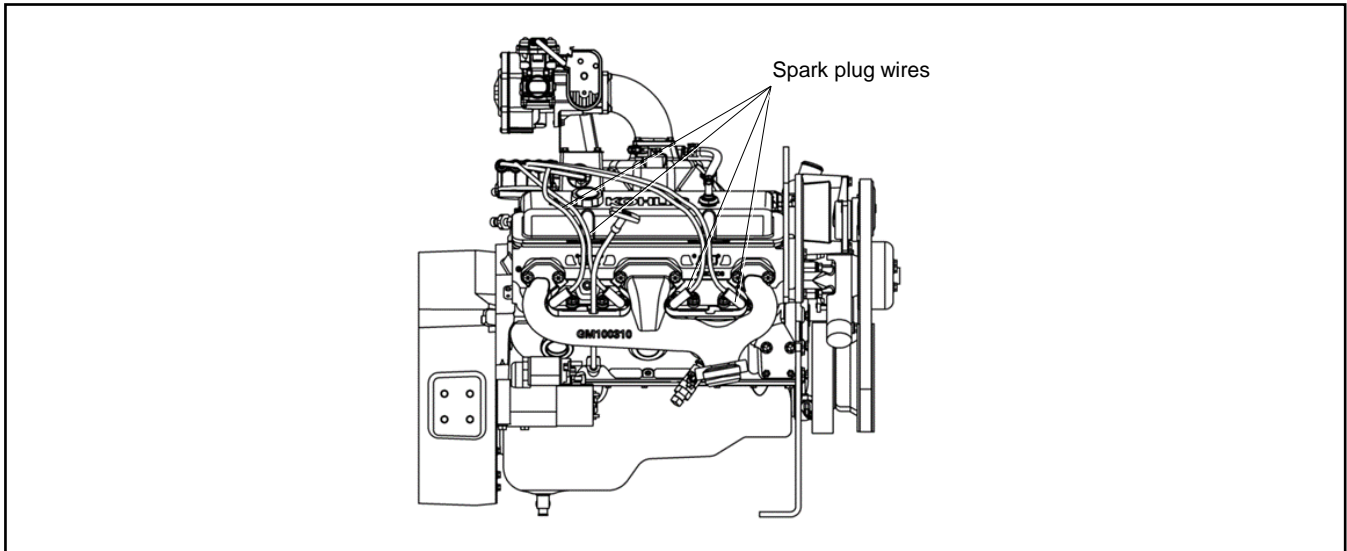

Figure 16 Spark Plug Wires
2. Use a cloth to wipe dirt and oil away from the area around each of the four spark plug wires. See Figure 16.